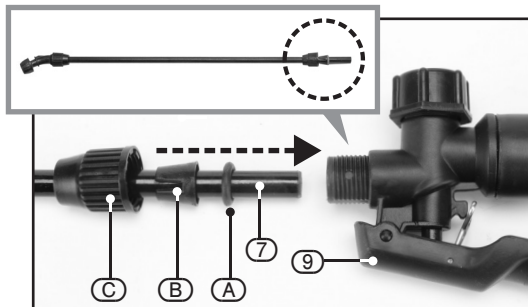

FIG.9
8.3 LANCE ASSEMBLY – FIGS. 9 – 10
- If not already in place, make sure the rubber gasket (A) and compression fittings (B) and (C) are arranged onto the lance (7) in the correct order, as shown in FIG.9.
- Slide the the end of the lance into the trigger assembly (9).